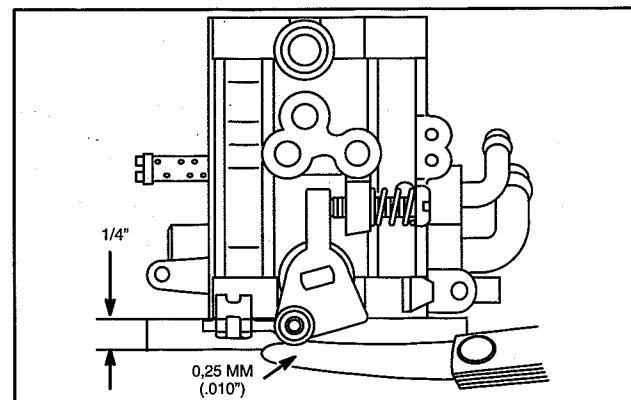

Fig. 50 – Check Clearance
1. Lay carburetor on 6mm (1/4") raised flat surface and check throttle and choke shaft clearance as shown in Fig. 50.